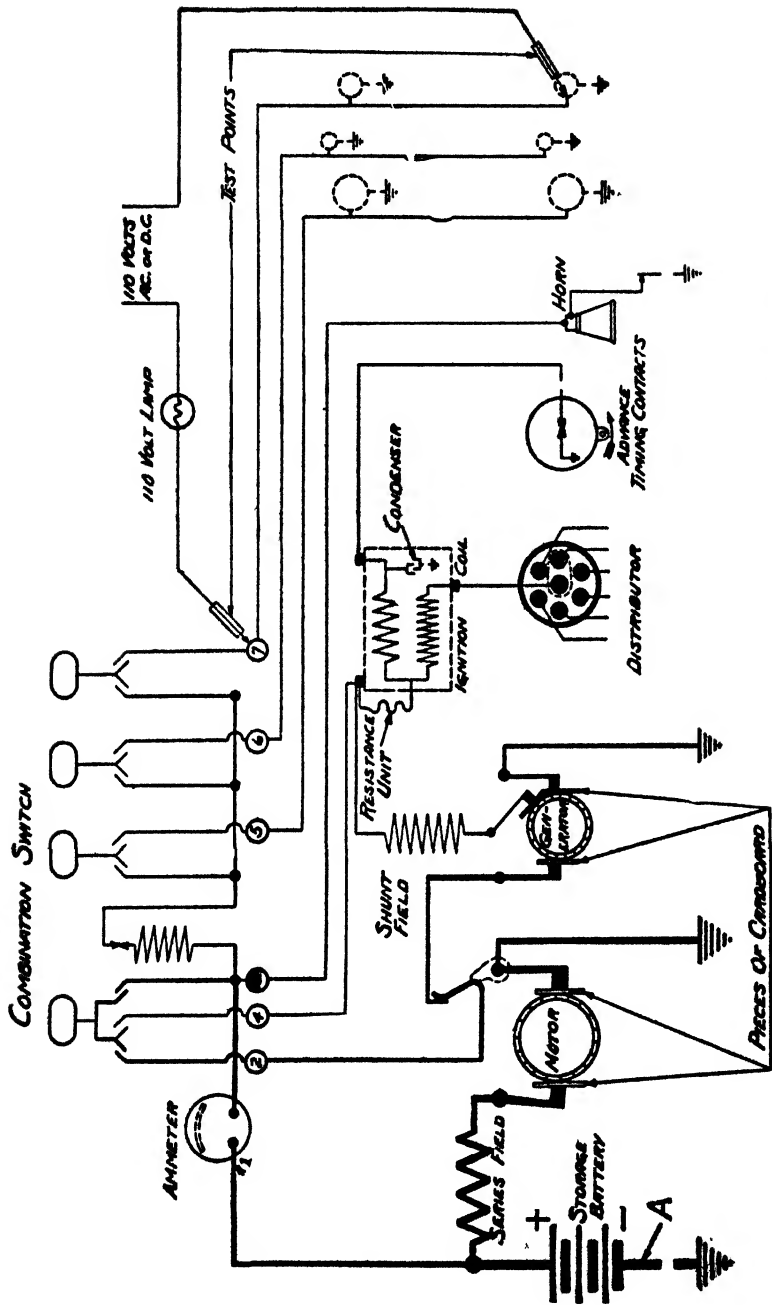

Fig. 50. Wiring Diagram Showing Method of Using Lamp-Testing Set for Discovering Breaks in Wires
**Locating Breaks in Wires.** Where the failure of the apparatus in a particular circuit makes it apparent that a wire, or lead, may be broken, it may be tested by placing one of the points on each end of the wire in question. The lighting of the lamp will indicate that there is a complete circuit through the wire, while its failure to light is evidence of a break in the wire. If at all difficult to locate the break, the easiest method of repairing is it to replace the wire with a new lead of the same size and type of insulation. The method of carrying out this last test is illustrated in Fig. 50 and it is naturally applicable to any of the wires, not only of this type of installation but of any other lighting and starting system. In making this test, care must be taken not to apply the points at places on the terminals where a ground connection will result, as this will complete the circuit through the lamp without the current passing through the wire supposedly under test. This method of locating grounds, short-circuits, or open circuits will be found much better than the use of a buzzer, bell, or magneto, and it is recommended wherever a 110-volt current is available. However, where it is not available, a lamp, bell, buzzer, or the portable voltmeter may be used in connection with the storage battery on the car, after detaching its usual connections to the system.